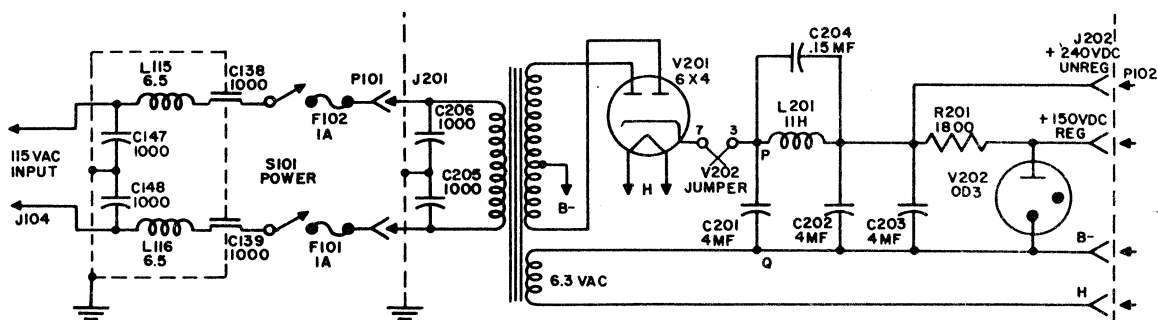

Figure 2-18. Schematic Diagram of the Power Supply PP-562A/URM-25.
(See figure 2-18).
shown in figure 2-18.
c. The plate supply voltage derived from the high voltage secondary and rectifier tubes (points PQ on figure 2-18) is approximately 240 volts DC and must be reduced to the required 150 volts DC regulated supply for all tubes except V-104 and V-108. This voltage drop is achieved by the DC series dropping network (L-201, R-201). A PI filter consisting of a choke (L-201) and three 4 microfarad capacitors (C-201, C-202, C-203) is provided as a ripple filter. The two 4 microfarad capacitors (C-202, C-203) are connected in parallel to increase the effective capacitance. A single 8 microfarad capacitor would introduce a problem of physical location. An additional .15 microfarad capacitor (C-204) is inserted in parallel with L-201 to form a 120 cycle resonant filter. This resonant filter lowers the 120 cycle power supply hum level.
d. In a regulator tube such as the OD3 (V-202), the voltage across the tube (150vDC) remains constant over a fairly wide range of current (5 to 40 ma) through the tube. This property exists because the degree of ionization of the gas in the tube varies with the amount of current that the tube conducts. When a large current is passed, the gas is highly ionized and the internal impedance of the tube is low. When a small current is passed, the gas is ionized to a lesser degree and the internal impedance is high. Over the operating range of the tube, the product ( $I \times R$ ) of the current through the tube and the internal impedance of the tube is practically constant. If the supply voltage (points PQ on figure 2-18) drops, the voltage across the glow tube